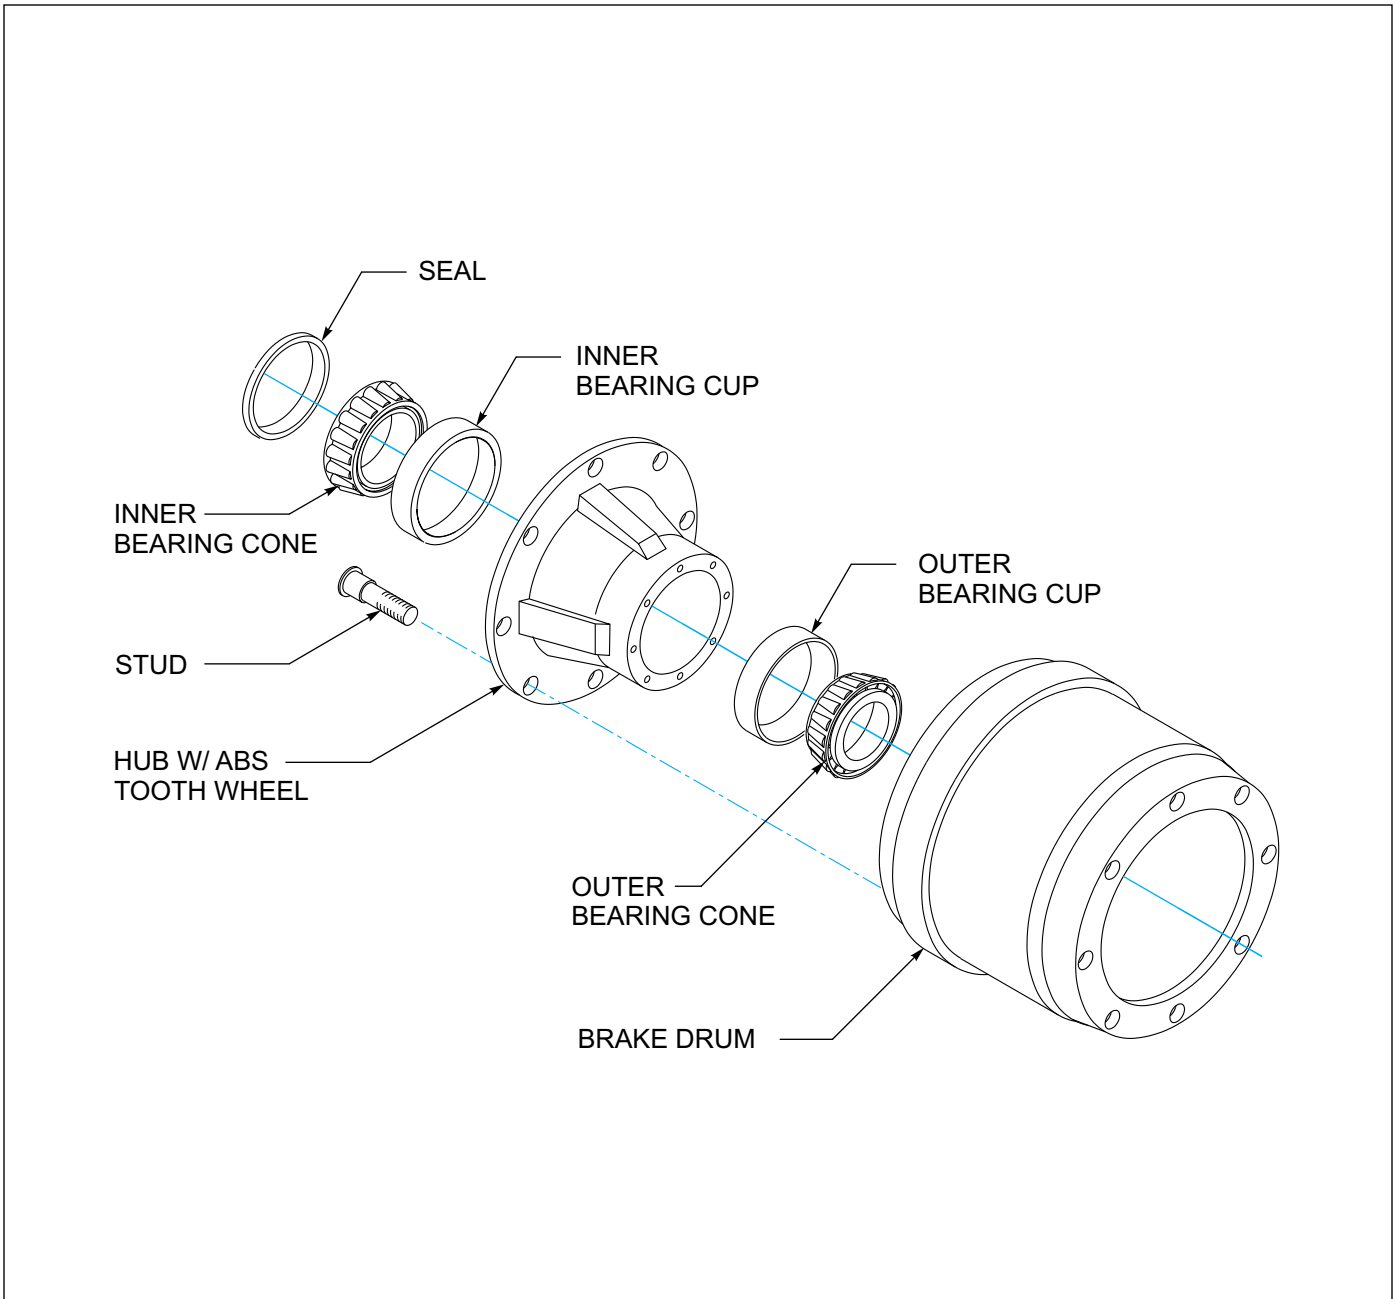

Figure 4-17: Outboard Mount Hub and Drum
3. Remove drum assembly (*See Figure 4-17.*)
4. Replace the hub and drum as follows: (*See Figure 4-17.*)
- i. Place the drum over the hub and brake shoes being careful not to damage the threads on the studs (*See Figure 4-17.*) Make sure the drum seats flat against the hub flange and mates properly with the hub pilot. There should be no interference between the brake drum pilot chamfer and the corner radius on the hub. If interference exists, the hub will not be able to function properly.
- k. If studs are marked "R" or "L", right hand (R) hubs should be installed on the curbside of the vehicle, left hand (L) hubs should be installed on the driver side.